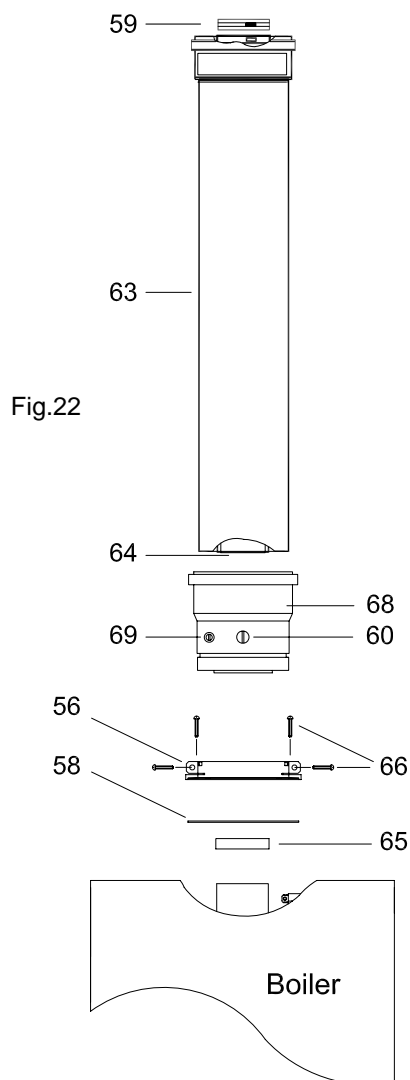

Fig.22
(fig. 22 item 66), and ensure that the gasket is correctly fitted.
Important: Make sure that the dia 60 mm on the straight flue header is inserted fully into the flue manifold, and the flue manifold rubber seal is correctly fitted. (Fig 22 item 65)
Starting at the appliance end, assemble the extension duct sections, making each inner and outer (flue) joint by inserting the spigot end into the socket end of the next tube, making sure the seal rings are correctly located (fig. 22). Make sure that the entire flue is adequately supported. Use at least one bracket for each extension used.